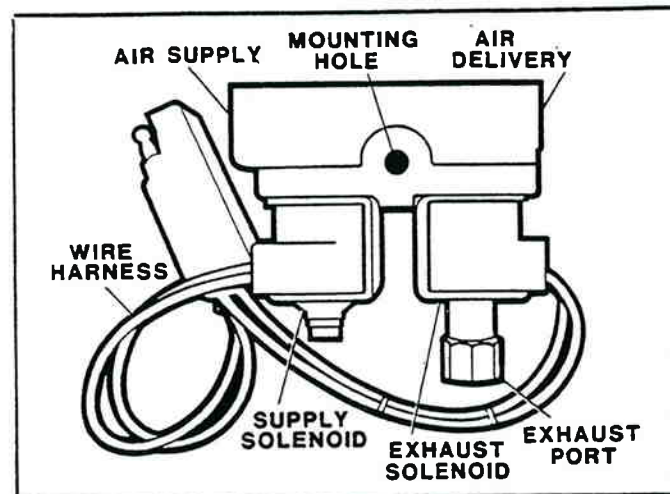

Figure 9-10. Solenoid Assembly.
**SOLENOID ASSEMBLY** — mounted directly to the module case, the assembly employs two solenoids; one controls the inlet valve, the other controls the exhaust valve (figure 9-10).